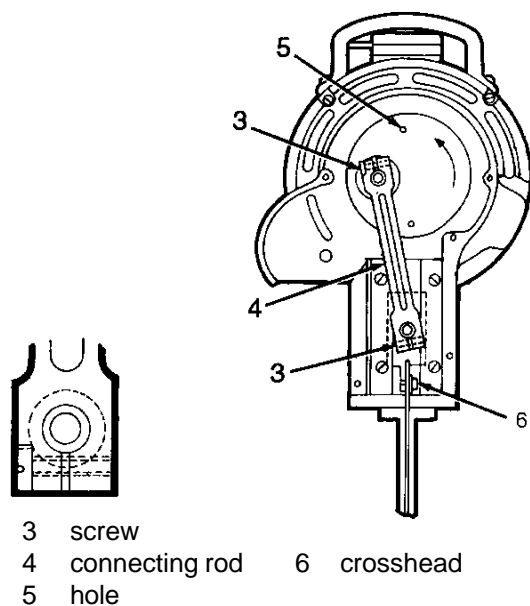

Figure 13. Freeing Frozen Guides
3. Loosen the screws (Figure 13, 3) and remove the connecting rod (Figure 13, 4).
4. Insert the drift pin in the hole (Figure 13, 5) in the crank and tap with a light hammer in the direction of the arrow. This will loosen the crank.
6. Remove the crosshead (Figure 13, 6) from the guides.